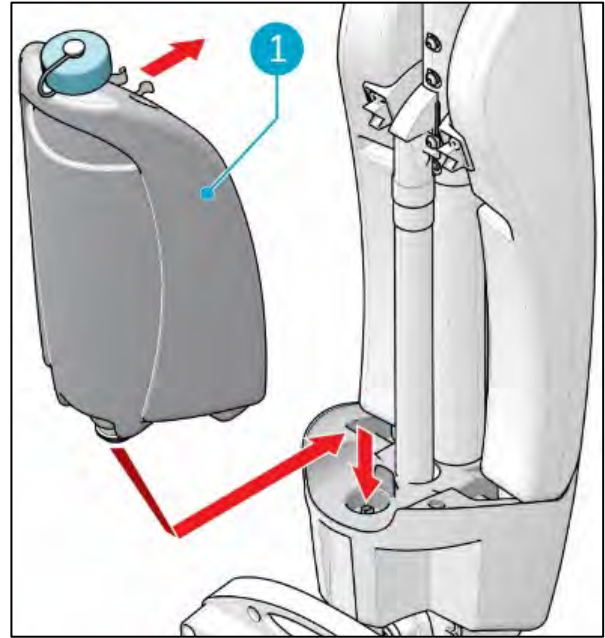

Figure 12
1. Put the tank (Figure 12, pos 1) on the i-mop® XL Basic with the valve first.